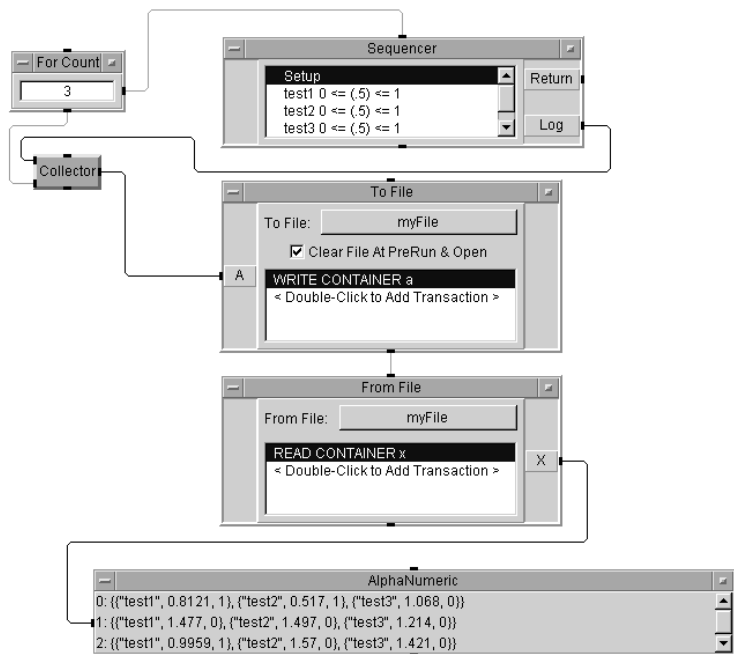

Figure 218 Storing Logged Data with To/From File
- 5 Run the program. It should look like Figure 218.